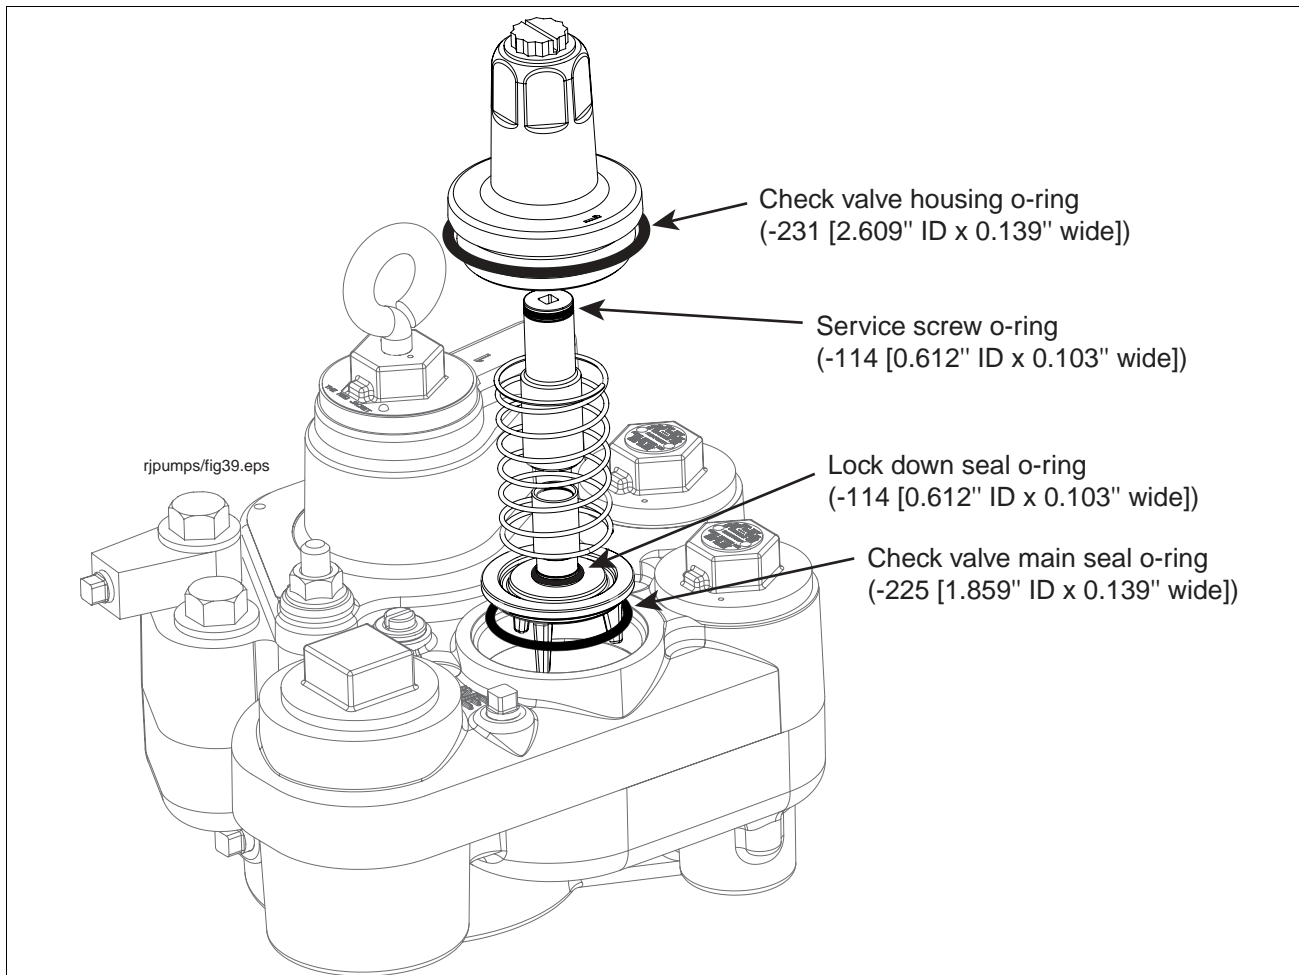

Figure 36. Inserting Check valve assembly into manifold
6. With its lubricated o-ring in place, insert the check valve onto its seat in the manifold, and place the new spring over the check valve (see Figure 36). Place the check valve housing with o-ring over the spring and check valve and screw it in hand tight. Torque the housing to 20 - 50 ft-lbs (27 - 67 N•m).